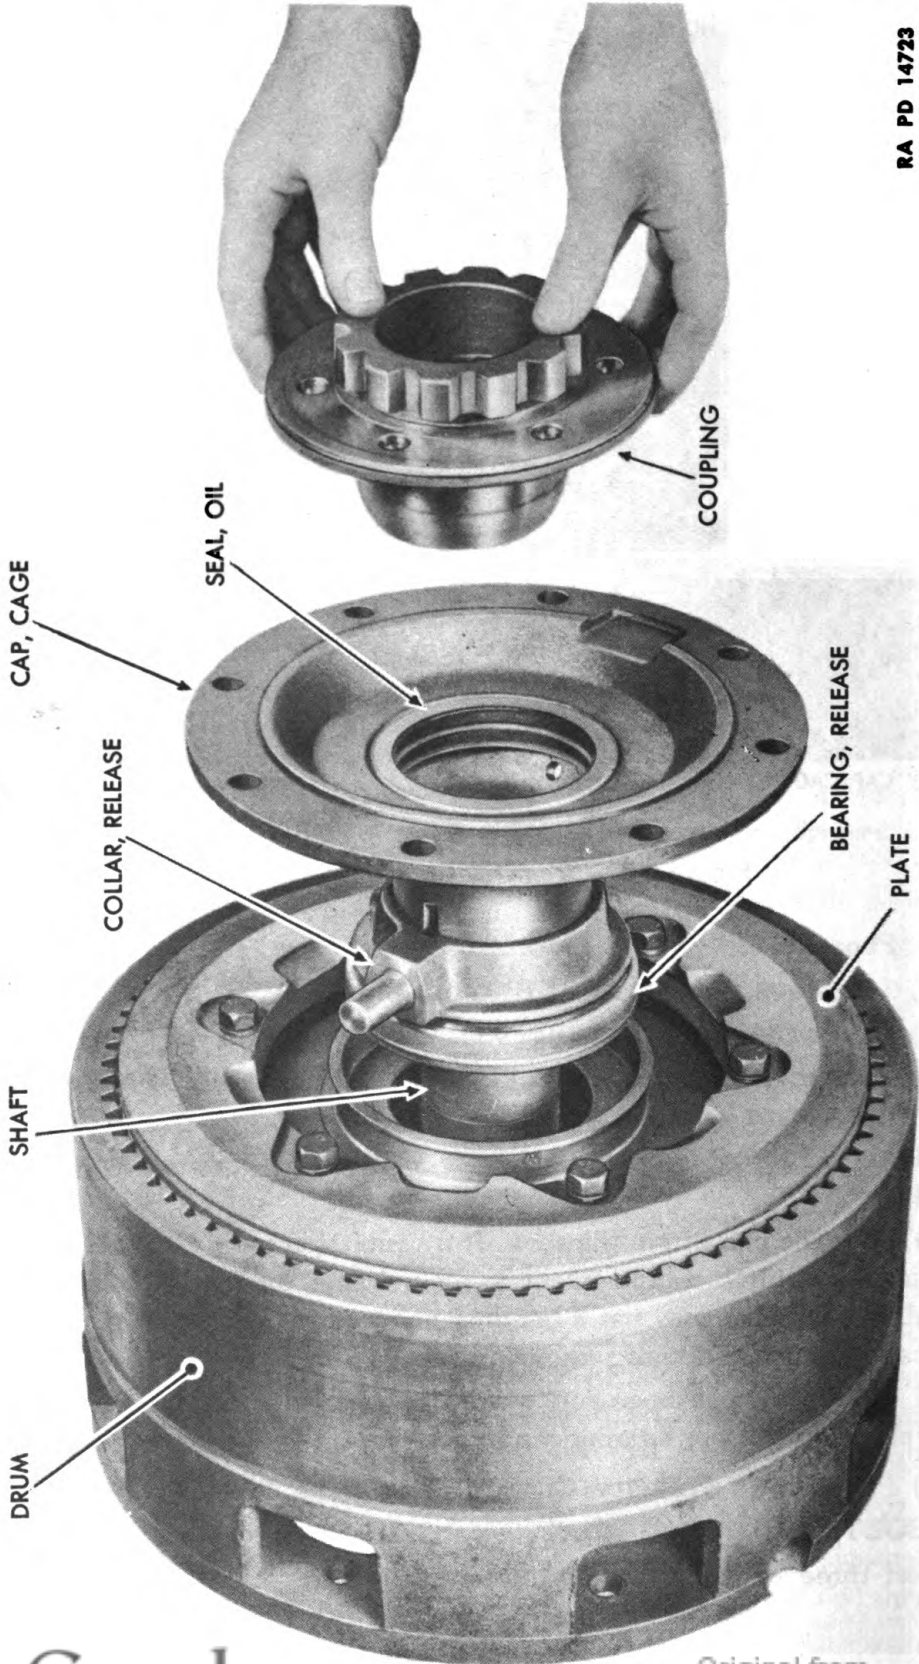

Figure 98 — Steering Clutch Coupling Removal
- (1) REMOVE GASKET FROM BEARING CAGE CAP.
- (2) LIFT OFF COUPLING (fig. 98).
- (3) REMOVE CAGE CAP, RELEASE COLLAR, BEARING, AND COLLAR KEY FROM SHAFT (fig. 98).